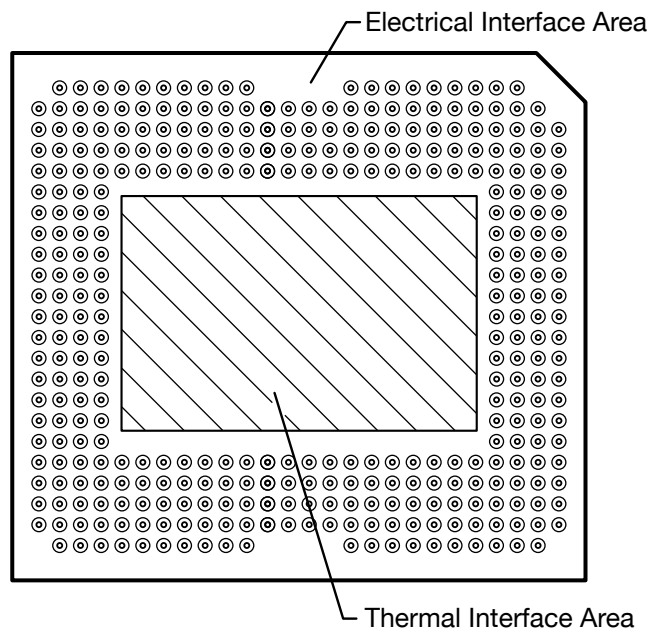

Figure 6-9. System Mounting Interface Loads
(1) The load must be uniformly applied in the corresponding areas shown in Figure 6-9.